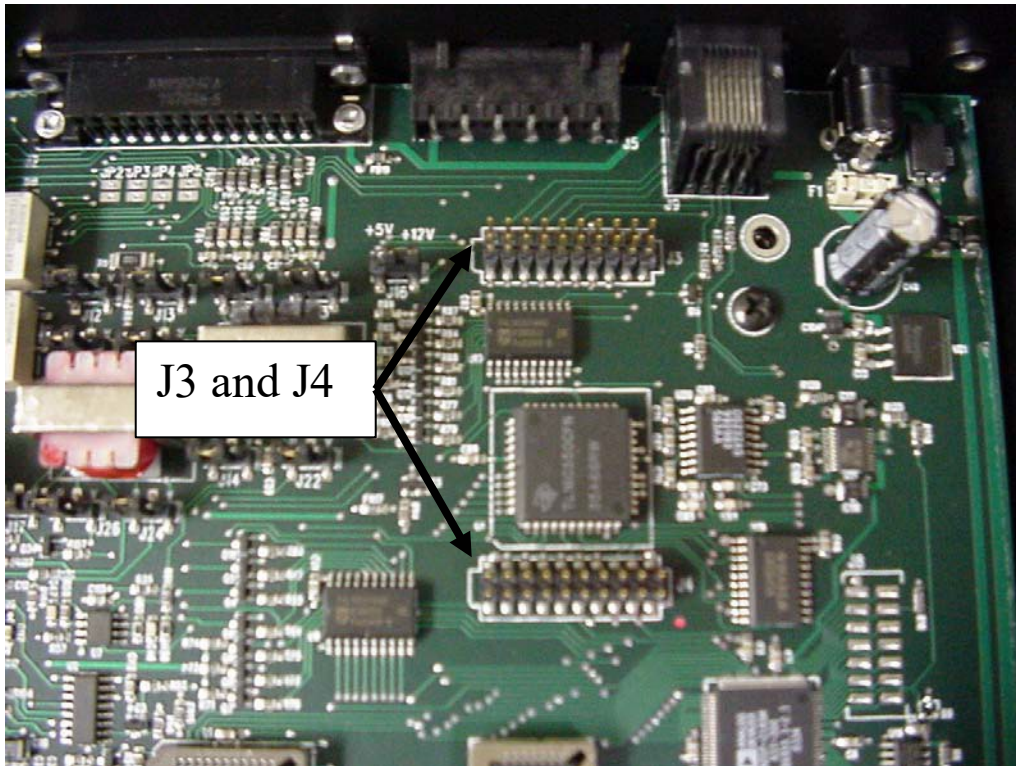

Figure 1 – Serial Adaptor PCB Location
2. Align the Serial Adaptor PCB (from kit 1100-30964-402) over J3 and J4 of the DSP233 main board. See Figure 1.